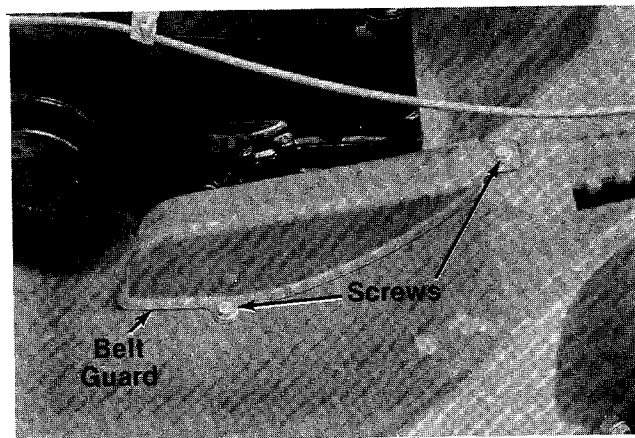

FIGURE 24.
3. Remove the two screws which hold the belt guard to the deck. See figure 24.